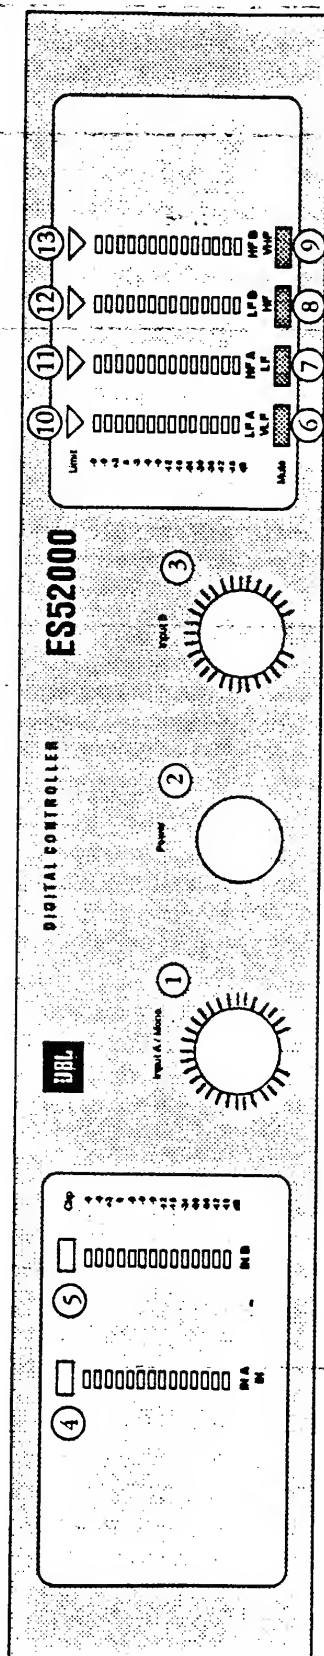

Figure 9: Front panel.
2. Connect the audio signal generator to the Channel A input of the ES52000. Turn on the generator, the ES52000 and the power amplifiers, and turn the amplifier gain controls (if any) to their maximum settings (fully clockwise). Set the Channel A input level control on the ES52000 front panel (shown in Figure 9, Page 13, (1)) to maximum (clockwise).
The ES52000 has two input gain controls [(1), (3)] located on the front panel, shown in Figure 9, page 13. Input B, the right-hand control (3), is used only when the controller is set to dual-channel two-way mode. Make certain that the gain controls are set at minimum (fully counter-clockwise) prior to applying power. The unit is turned on by depressing the power switch button between the two gain controls (2). All front panel LED's will briefly illuminate during the self-test procedure following the application of power.